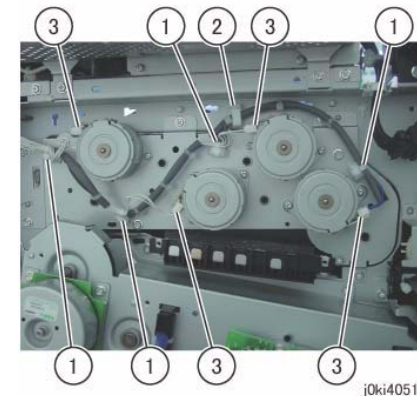

Figure 5 Disconnect the connectors
14. Disconnect the connectors (x4). (Figure 5)